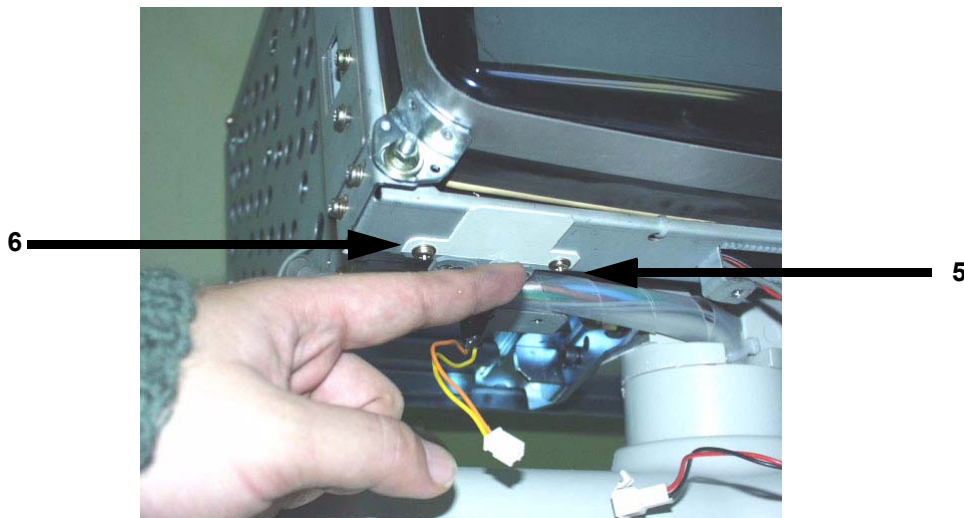

Figure 8-47 Unscrew two screws
- 3.) Unscrew two (5-6) screws to remove the TaskLamp Assy. Refer to Figure 8-47 on page 8-12